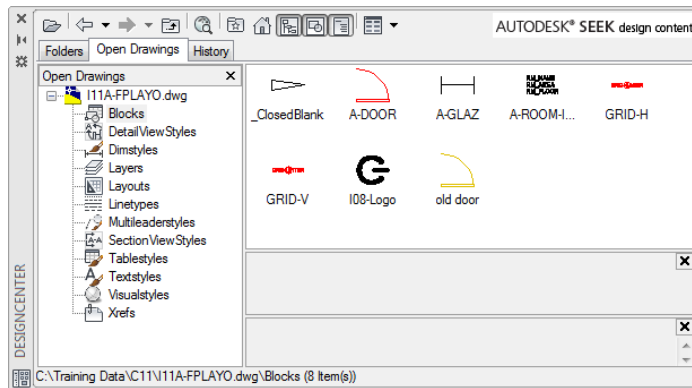

FIGURE 11.28 : DesignCenter with the Large Icons view enabled
9. Click the arrow on the Views button in the DesignCenter toolbar, and choose Large Icons as the view option to see a display like Figure 11.28.